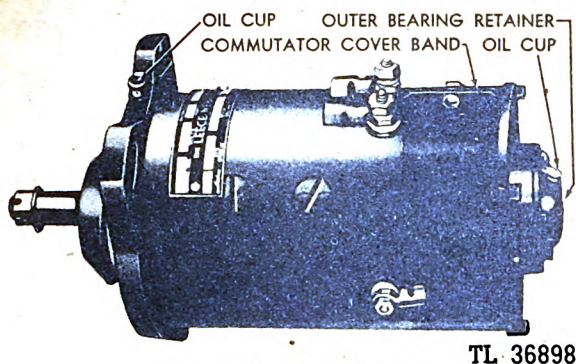

Fig. 246. Generator
*i. Generator Disassembly.* After the generator has been removed from the engine, the following procedure is recommended: (See Figure 246.)